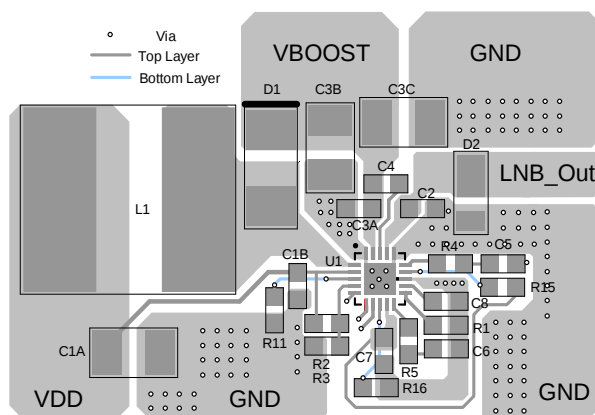

Figure 13: Recommended PCB Layout
Efficient PCB layout is critical for high-frequency switching power supplies. A poor layout can result in reduced performance, excessive EMI, resistive loss, and system instability. For the best results, refer to Figure 13 and follow the guidelines below:
- Efficient PCB layout is critical for high-frequency switching power supplies. A poor layout can result in reduced performance, excessive EMI, resistive loss, and system instability. For the best results, refer to Figure 13 and follow the guidelines below: